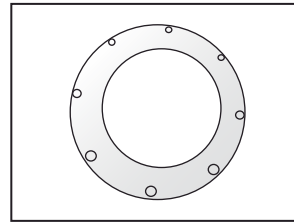

Figure 8.2
**8.5.** If horizontal and vertical flue lengths are less than 1m, the restrictor (air diaphragm)–Figure 8.2 must be fitted on the combination boiler.